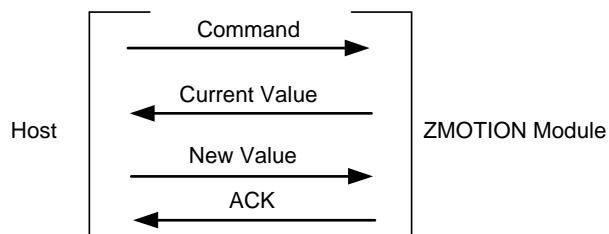

**Figure 5. Read Command Structure**
- When a Read command is received, the Module returns the applicable value, as described in the Serial Commands section on page 15. See the example in Figure 5.